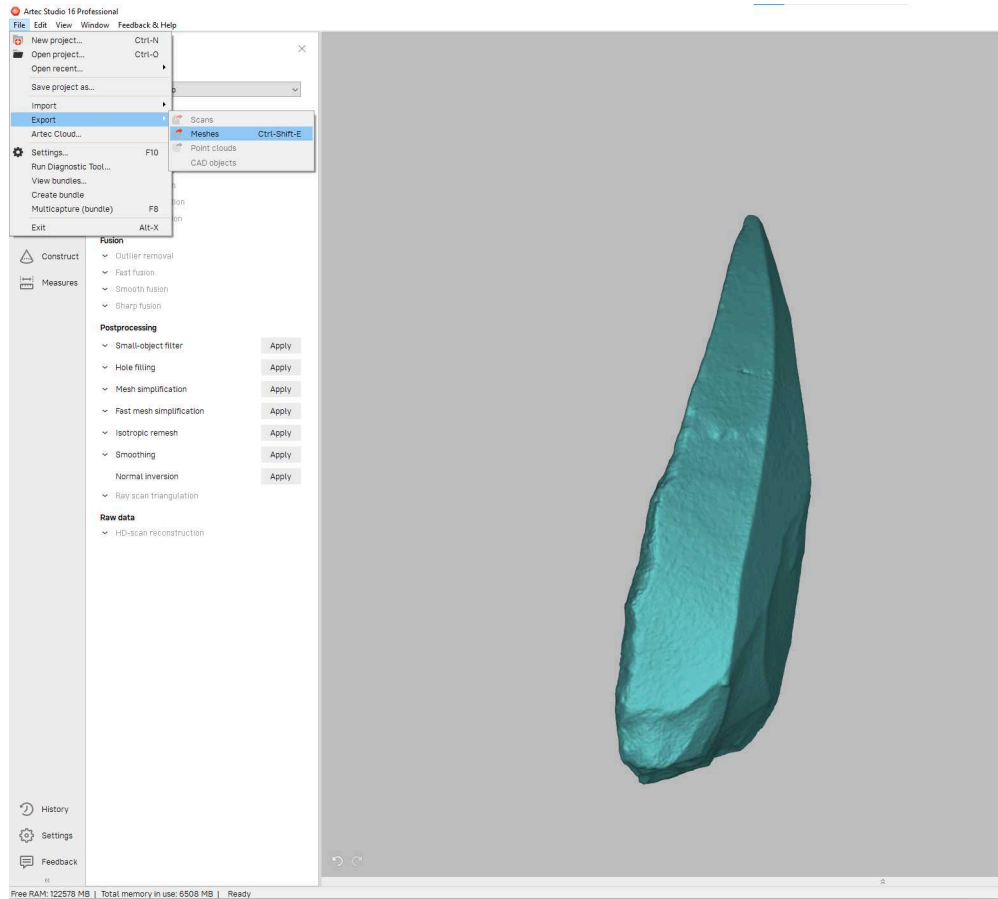

Fig. 15. The final step of the scanning process consists in exporting the mesh in the preferred 3D format.
- 25 Finally, export the 3D model in the preferred format (e.g., .ply, .stl, .obj, .wrl) going to *File*, *Export*, and *Meshes* (Fig. 15). In alternative, just press Ctrl+Shift+E.